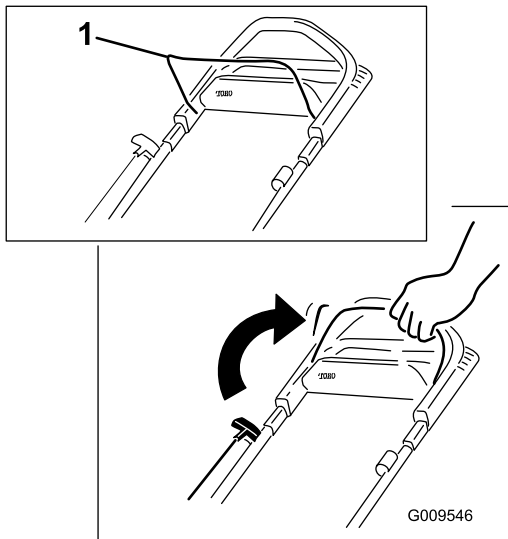

Figure 16
1. Hold the blade-control bar against the handle (Figure 16).